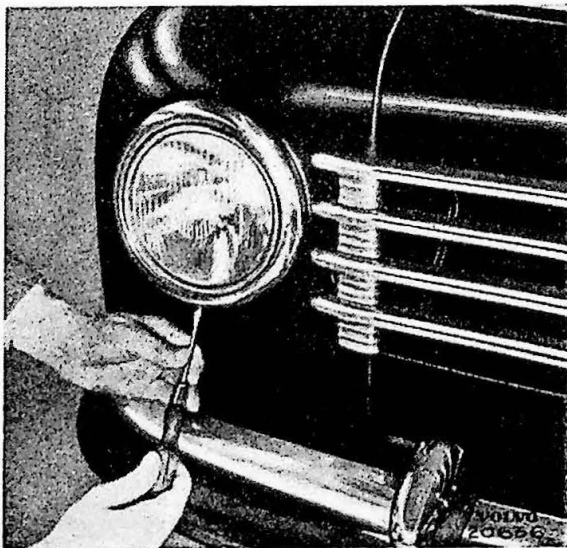

Fig. 10.
1. Remove the headlight rim screw (fig. 10). Remove rim by pulling out the lower part slightly and then lifting upwards.